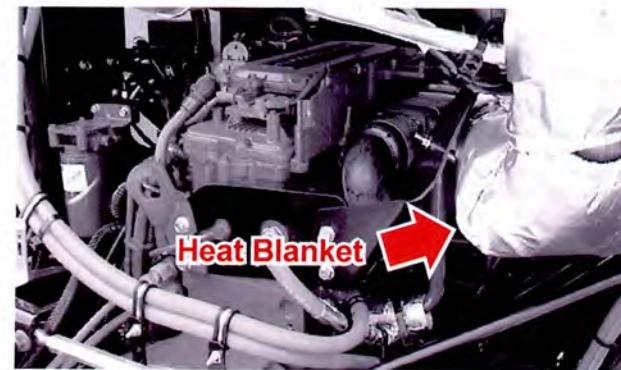

Figure 9
11. Install the heat blanket that was set aside in step 3 and secure with existing snaps (see Figure 9).